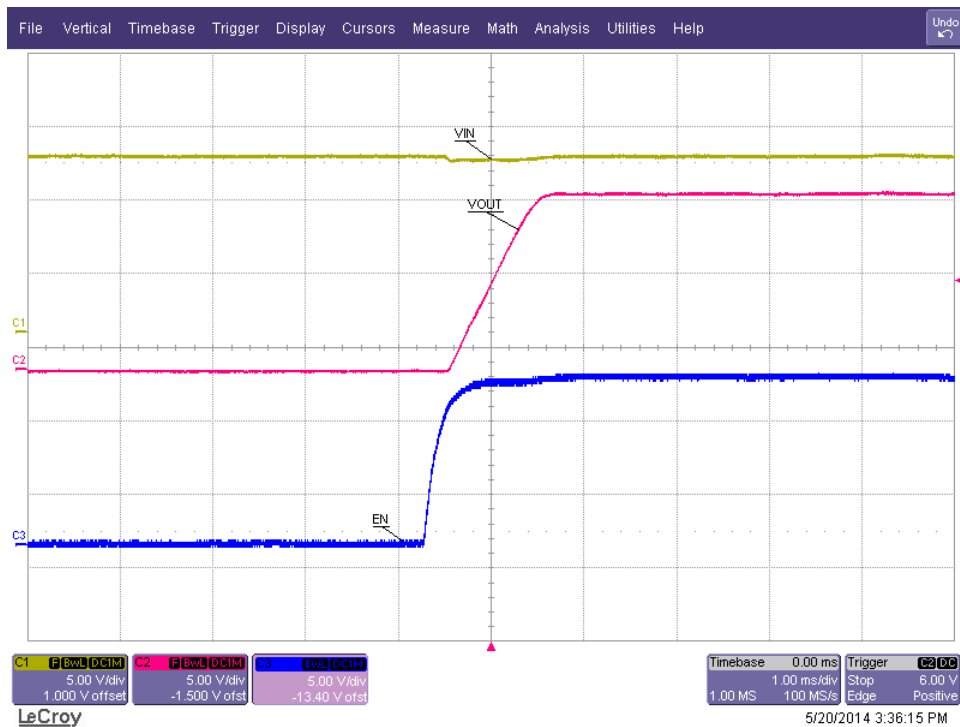

Figure 4. V_{OUT} Ramp Up Time for CH2
- Set the output load at 100 Ω on CH2 and then enable the load. Turn on the power supply, Press the EVM RST switch, S2 and release verify that VOUT2 (TP16) ramps up as Figure 4 shows.